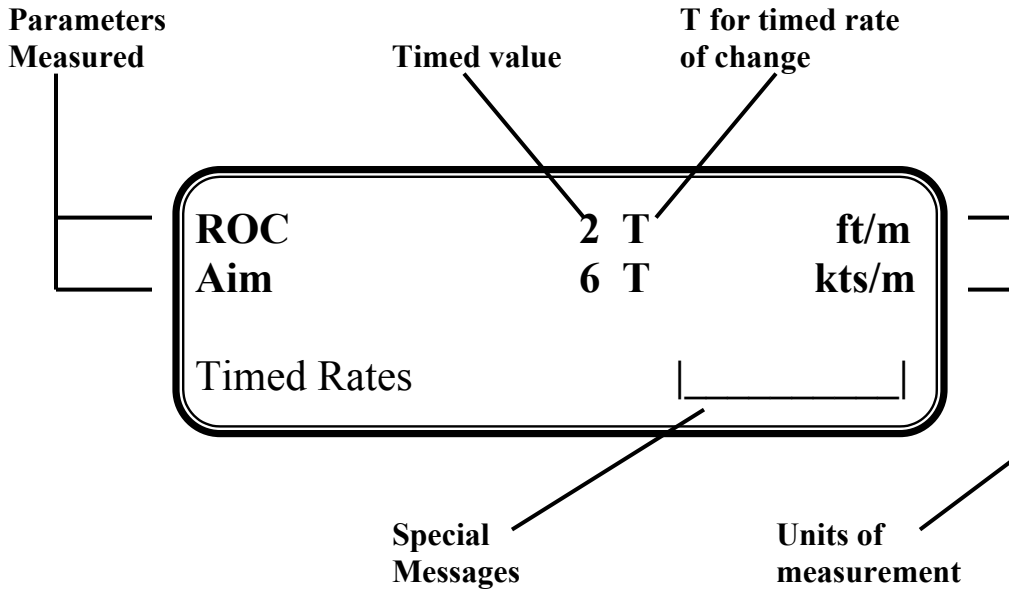
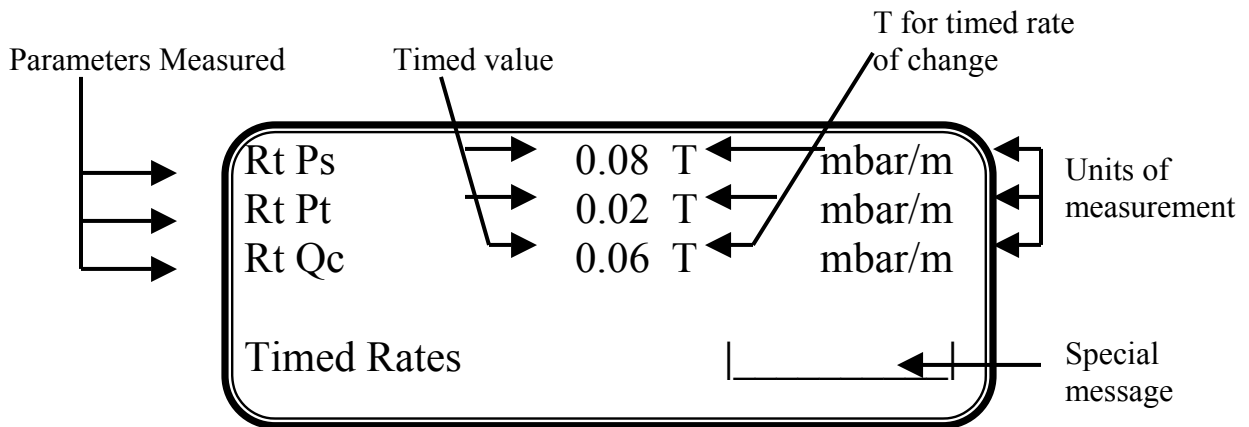

FIGURE 3-4 RATE TIMER DISPLAY AERONAUTICAL UNITS
FIGURE 3-5 RATE TIMER DISPLAY PRESSURE UNITS
3.6 RATE TIMER DISPLAYS (Fig 3.4 and Fig 3.5)